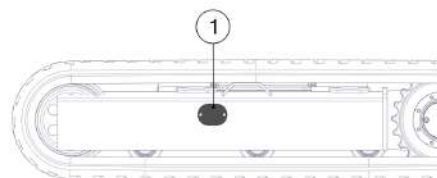

Figure 42 - Cover Plate Location
2. Remove the cover plate from the side frame to access the adjustment unit grease nipple (see Figure 42).